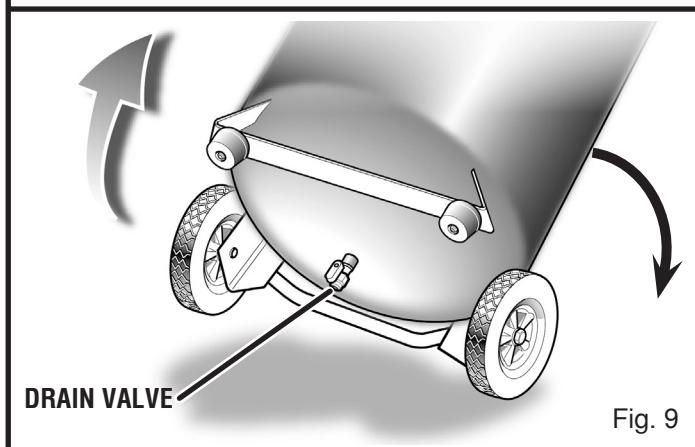

Fig. 9
- Keep the compressor tilted (figure 9) until all moisture has been removed.